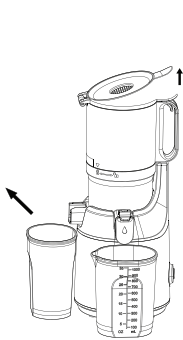

Fig 6
1. Remove the juice and pulp containers. (Fig 6)